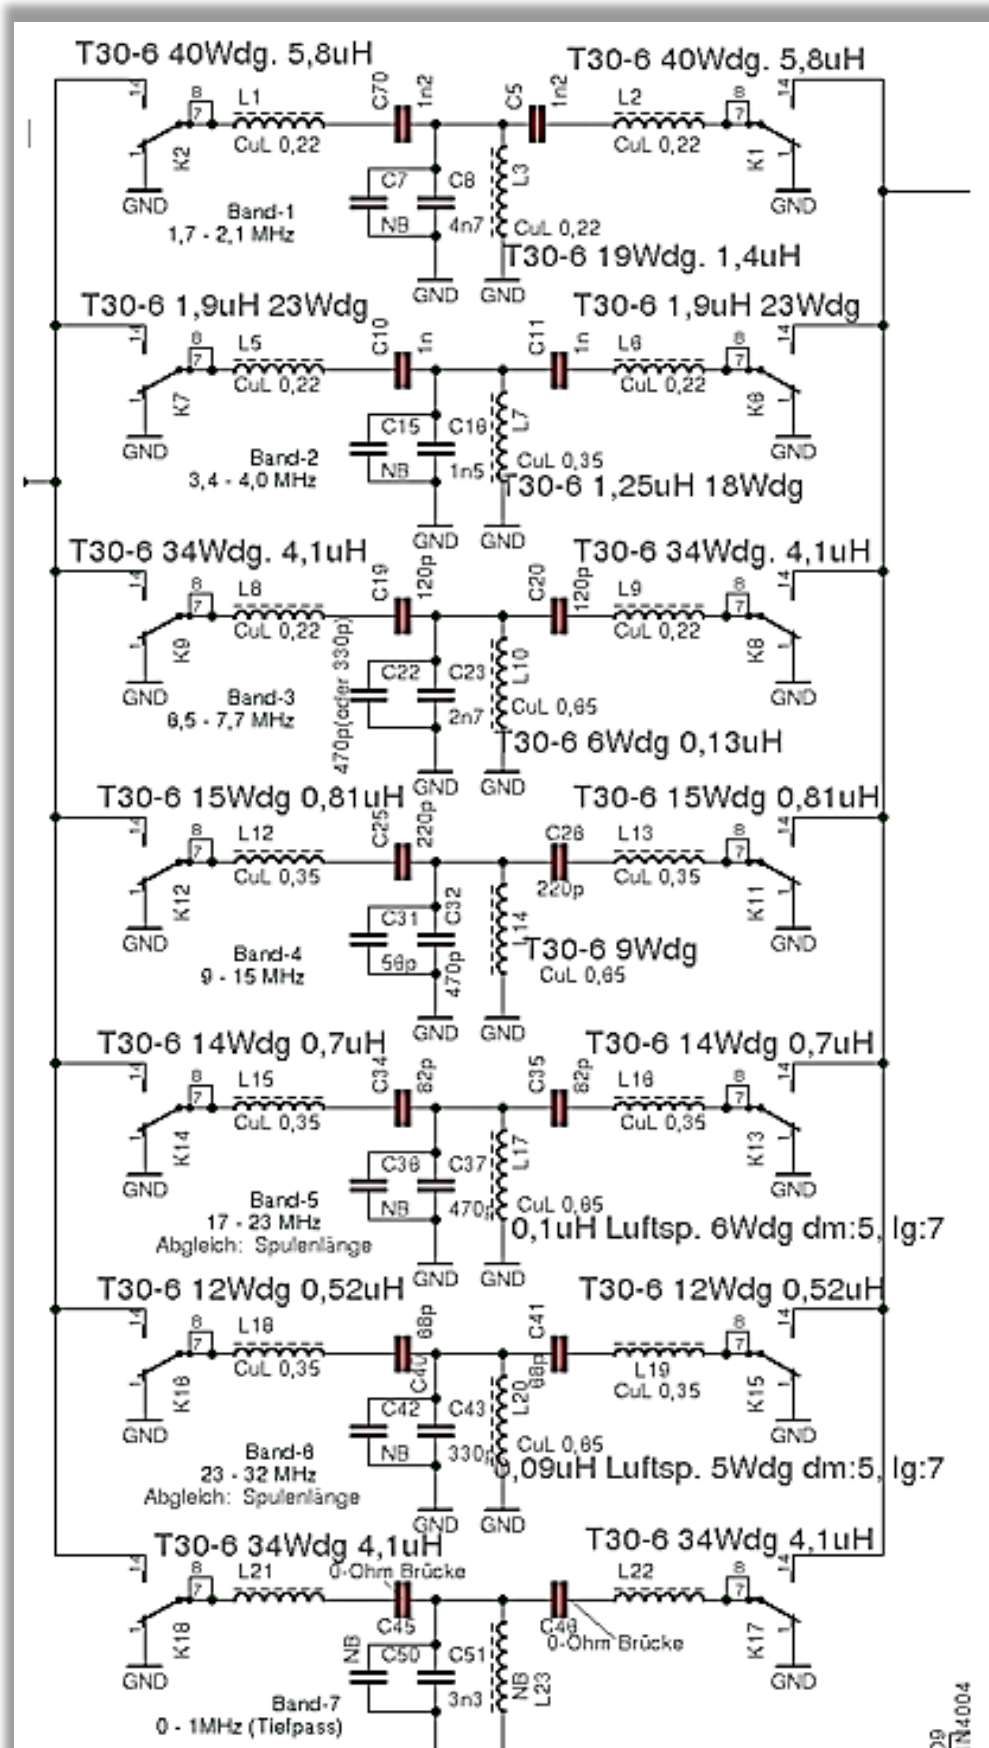

Fig. 21, Bandfilters.
5.6. Detail van de Bandfilters, fig.21.